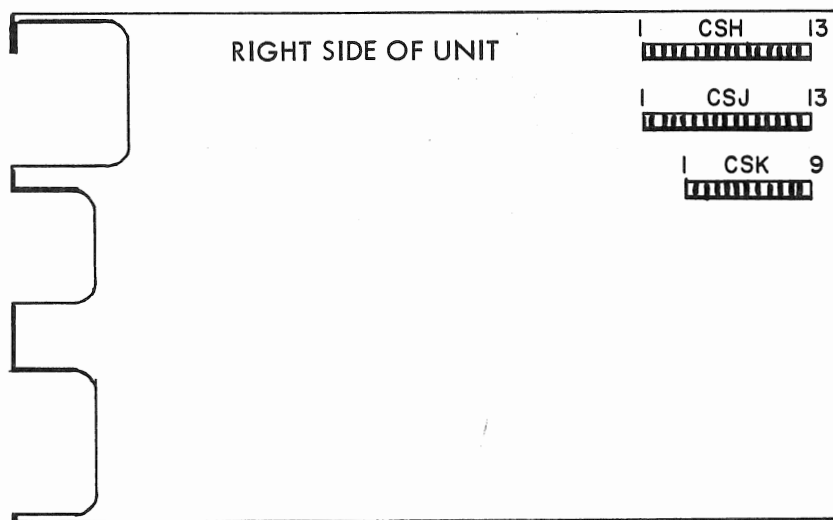

Fig. 1
- ( ) Dress other end of this wire through the grommet, across the chassis, and solder it to CSH-13 (see Fig. 1).